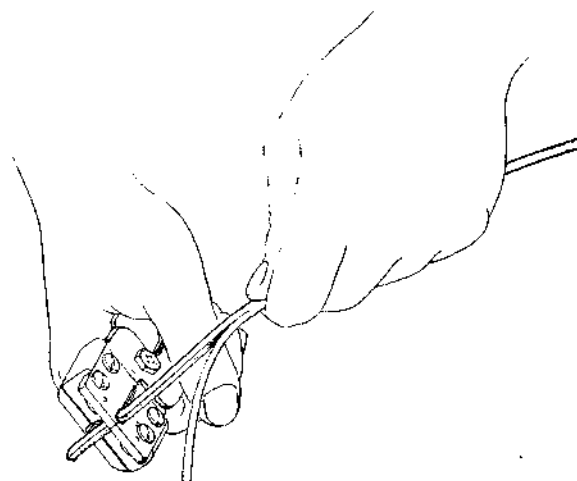

Fig. 3—Stripping C Rural Wire
3.02 To remove the insulation from conductor, place conductor in notch of stripping blades as shown in Fig. 3 and pull insulation from conductor. It may be necessary in some instances to rotate the wire splitter a half revolution in each direction to completely score insulation before pulling it off.